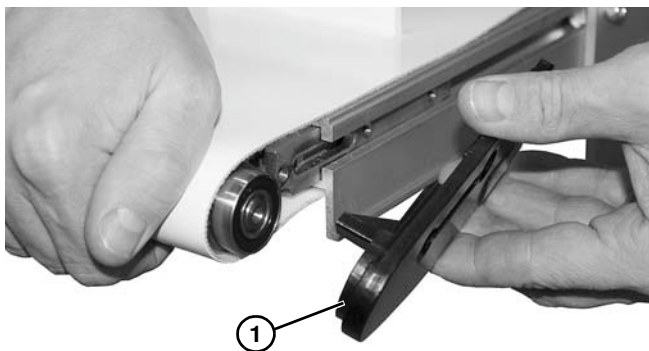

Figure 75
3. Remove the head plate (**Figure 75, item 1**) from the conveyor frame, holding spindle in place.